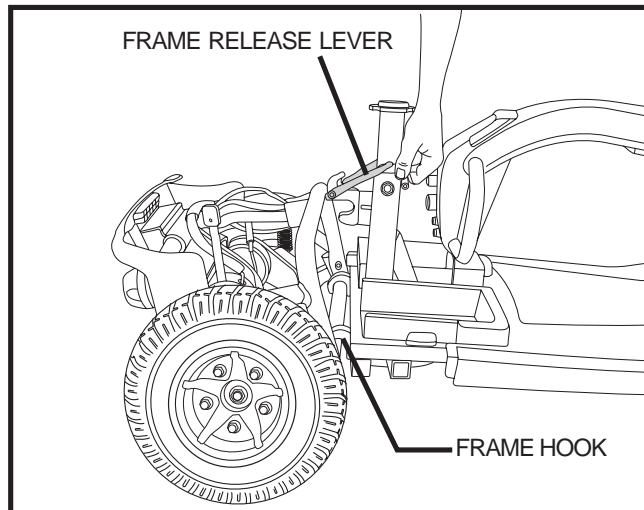

Figure 25. Frame Release
2. Lift up on the frame release lever. See figure 25.
2. Use the frame release lever to lift the front section as you align the frame hooks of the front section with the lower frame tube of the rear section. See figure 25.
3. Once the frame hooks are over the lower frame tube, lower the front section completely. This will engage the frame lock. See figure 25.